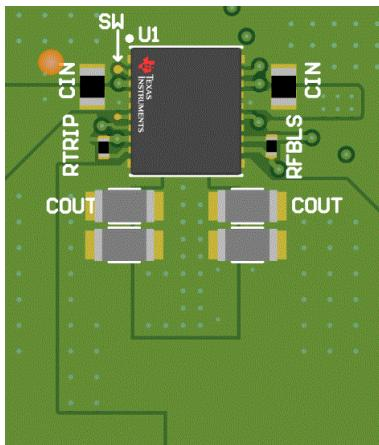

图 10-1. Recommended Layout Top Side
- See 图 10-1 for the layout recommendation.